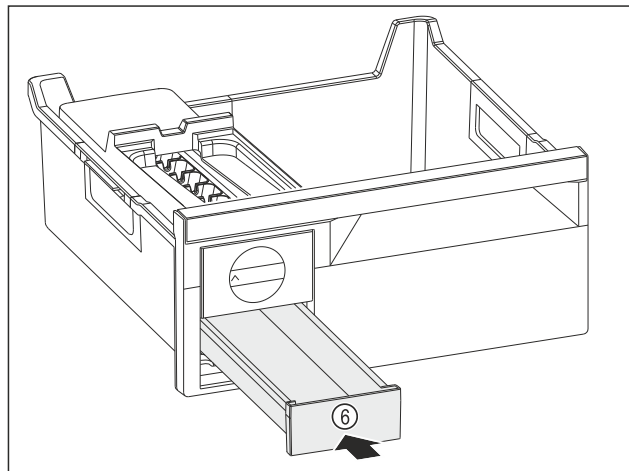

Fig. 170
- ▶ Insert the ice cube tray Fig. 170 (6).